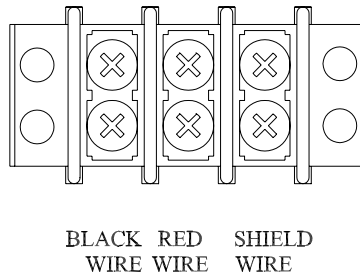

Figure 17 Control Cable Wiring Diagram
3. Connect the control cable to T1 terminal block on the junction chassis according to figure 17.